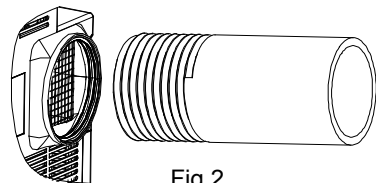

Fig.2
- Screw the exhaust hose onto the exhaust connector on the rear of the air conditioner, turning anti-clockwise (Fig.2).